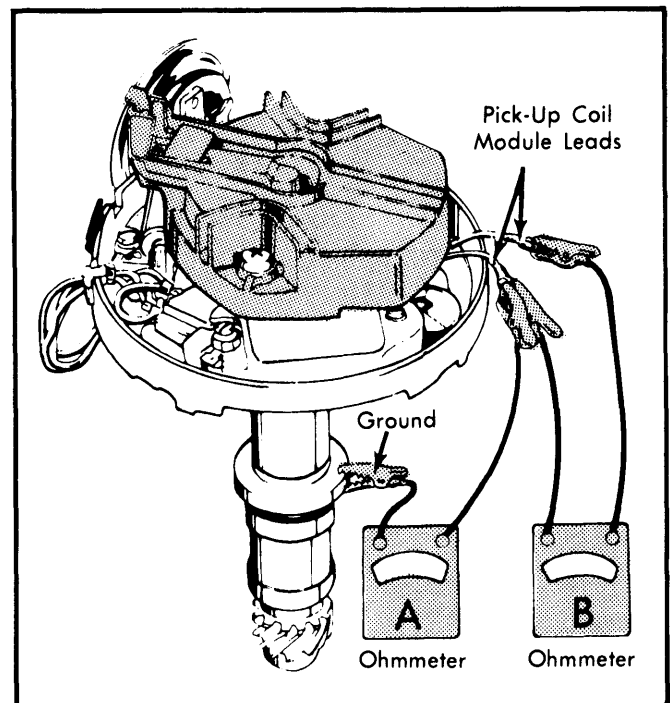

Fig. 4 Distributor Pick-Up Coil Testing Connections
Pick-Up Coil – 1) Connect test stand vacuum source to vacuum advance unit. If vacuum advance unit is inoperative, replace unit. To check pick-up coil for shorts, connect ohmmeter leads as shown by meter "A" in Fig. 4. Set on middle scale of meter. Operate vacuum advance through range. Reading should be infinite at all times. If not, replace pick-up coil.
2) To check pick-up coil resistance, connect ohmmeter leads as shown by meter "B" in Fig. 4. Again use the middle scale. Operate vacuum advance through its range. Ohmmeter reading should be 500-1500 ohms in all advance positions. If readings are not as specified, replace pick-up coil.